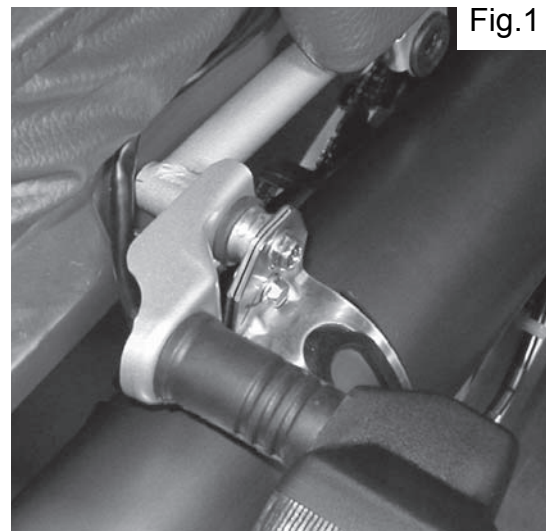

Fig.1
12. Carefully slide the supplied strap bracket/rubber sleeve over the muffler and position it to the rear turn signal mounting point. Make sure the "inside" sticker on the bracket is towards the subframe (fig.1).